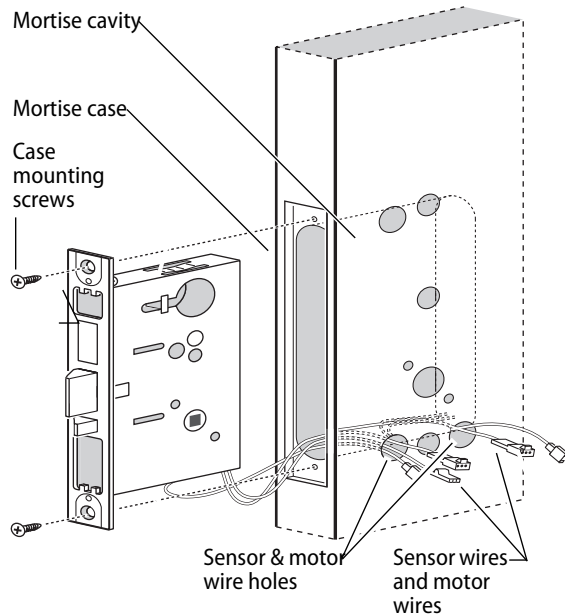

Figure 7 Installing the mortise case (inside of door)
- 2 Insert the mortise case into the mortise cavity, while feeding the sensor and motor wires into the mortise cavity and out the two sensor & motor wire holes to the inside of the door as shown in Figure 7.